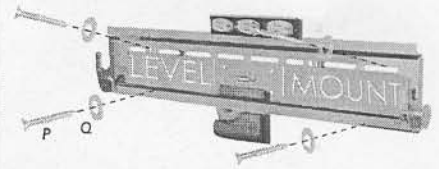
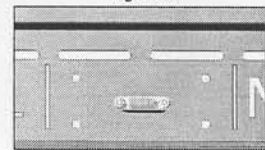
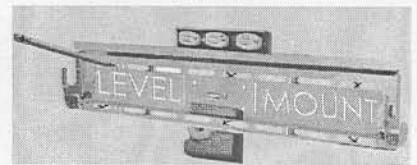

Figure 3
Figure 4
Figure 5
Using the Bubble Level as your guide (Figure 3), drive the 2nd screw into the opposite upper right hand mounting hole of the Wall Plate. Now tighten both screws, proceed to drive the remaining 2 screws into the studs as seen in figure 2.
**1b. Attaching Wall Mount to concrete block or brick wall:** Place the Wall Plate at the height you want to install the Plasma/LCD Wall Mount. Mark the six holes you will be using for concrete anchors (Figure 4). Utilize the built-in bubble level to ensure proper mounting (Figure 3). Drill holes for the concrete anchors using an electric drill with a masonry bit (1/2" or 12mm (Figure 5)). Drill into the wall at least as deep as the screw is long (3 inches).